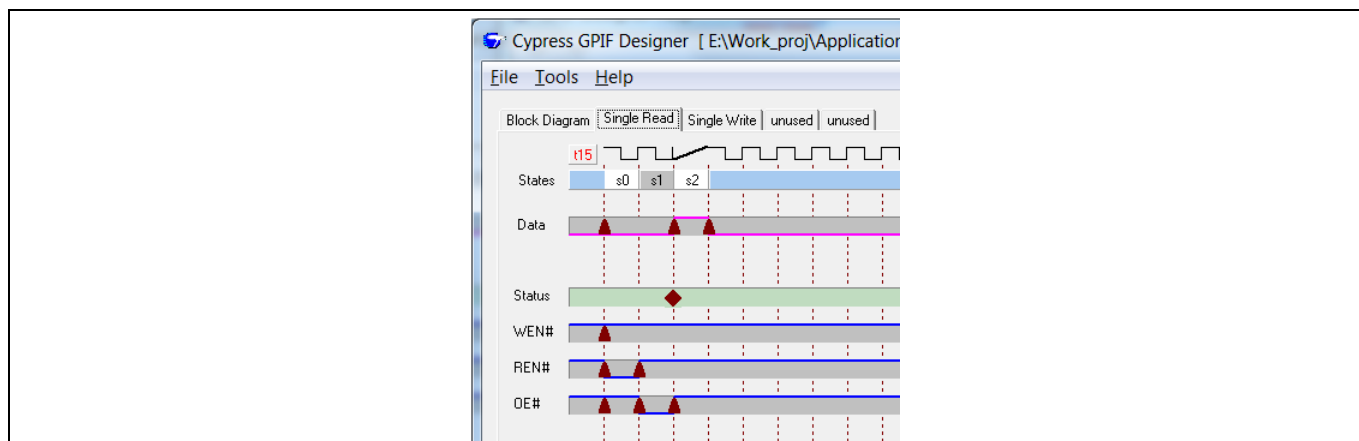

Figure 51 Final Single-Word Read Waveforms
5. One final adjustment needs to be made. The data must be sampled (read) during S2. To sample the data, place action points in the Data band at the beginning and end of S2. Note that the high level corresponds to sampling, rather than driving the Data band because this is in the Single Read tab. The final single-word read waveforms should appear as shown Figure 51.